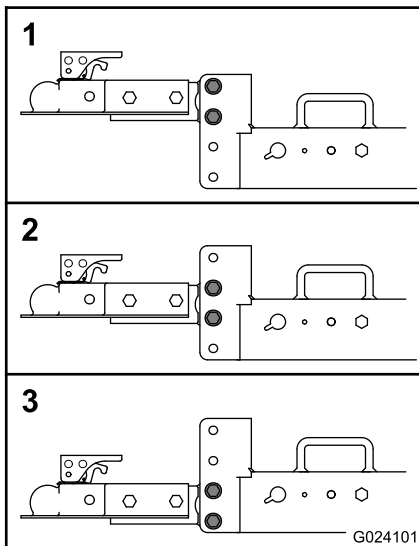

Figure 2
- Check the relationship between the hitch of the machine and the hitch of the tow vehicle (Figure 2), and mount the hitch assembly in 1 of the following positions: